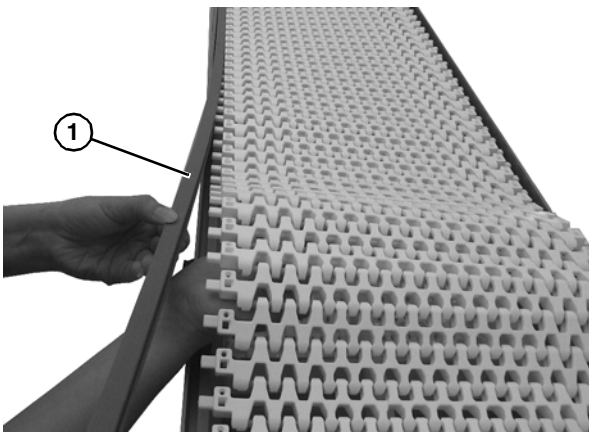

Figure 21
11. Lift belt off of frame and insert each edge strip (**Figure 21**, item 1) into side tabs of belt. Set belt and edge strips back into frame.